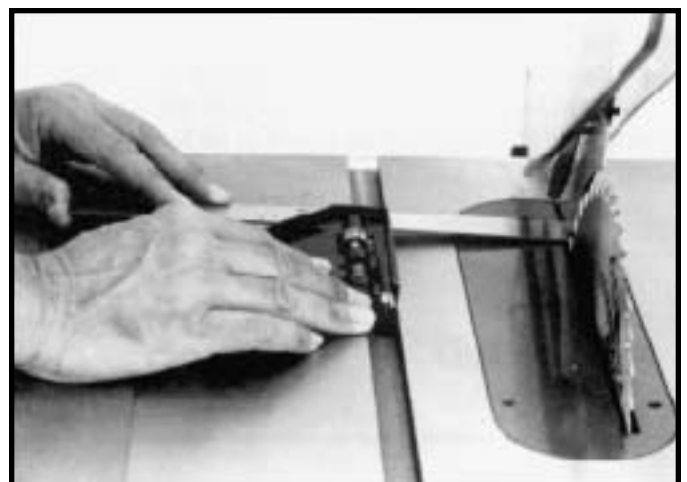

Fig. 58
3. Rotate the saw blade so that the same tooth you used in **STEP 2** is in the rear position, as shown in Fig. 58, and check this distance. Both the front and rear measurements should be identical.